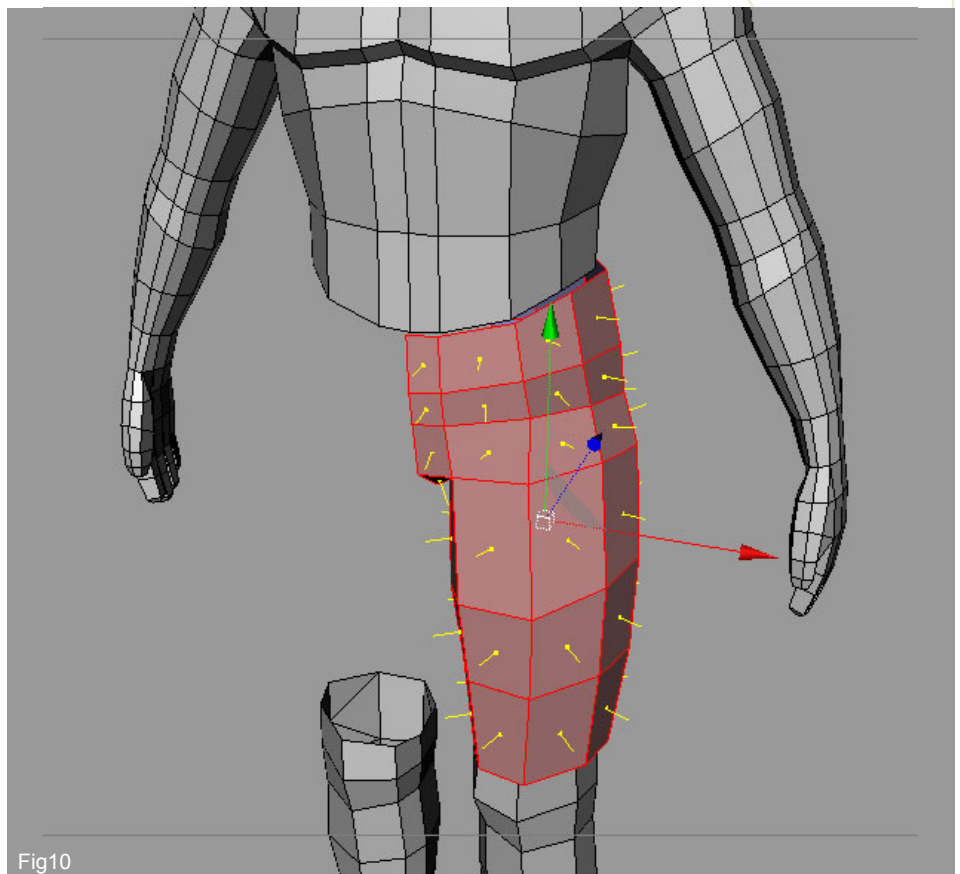

Fig10
10. Now we are going to add the clothing, the first part shall be the trousers. Select the polygons like shown in Fig10. Split them and scale them up slightly.